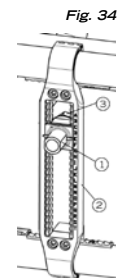
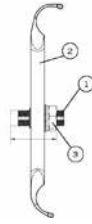

Fig. 34
Fig. 35
- Loosen the nut holding the axle bushing. (3) (Fig. 34 - Fig. 35)
- Move axle bushing (1) along mounting plate (2).
- Reinstall the bushing in the desired mounting hole and tighten nut (3).
The rear wheels can be adjusted laterally by repositioning axle bushing (1) (Fig. 35) on mounting plate (2).
- Loosen nuts (3) on the axle bushing (1).
- Turn the bushing (1) in the desired direction to adjust the spacing.
- Firmly tighten the nuts (3).